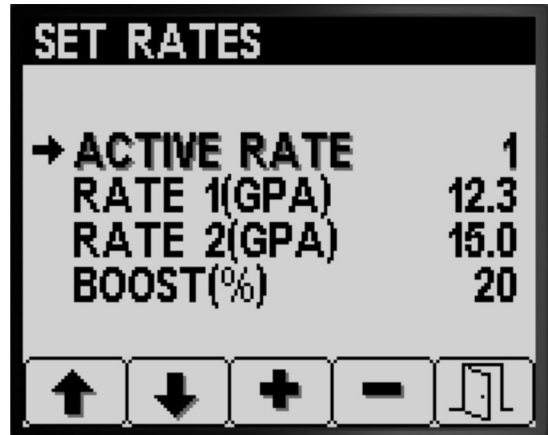

Figure 5
- Press button 1 or 2 to navigate to the ACTIVE RATE option (Figure 5).
- Press button 4 to select the ACTIVE RATE entry (Figure 5).
- Press buttons 3 or 4 to set the programmed active rate to either RATE 1 or RATE 2 (Figure 5).